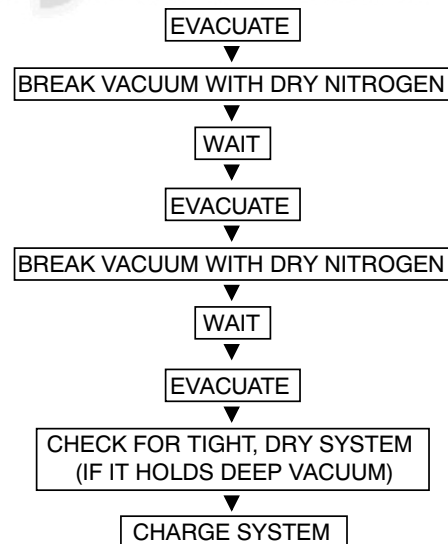

Fig. 28 – Triple Evacuation Method
The triple evacuation method should be used when vacuum pump is only capable of pumping down to 28 in. of mercury vacuum and system does not contain any liquid water. Refer to Fig. 28 and proceed as follows:
- Repeat this procedure as indicated in Fig. 28. System will then be free of any contaminants and water vapor.